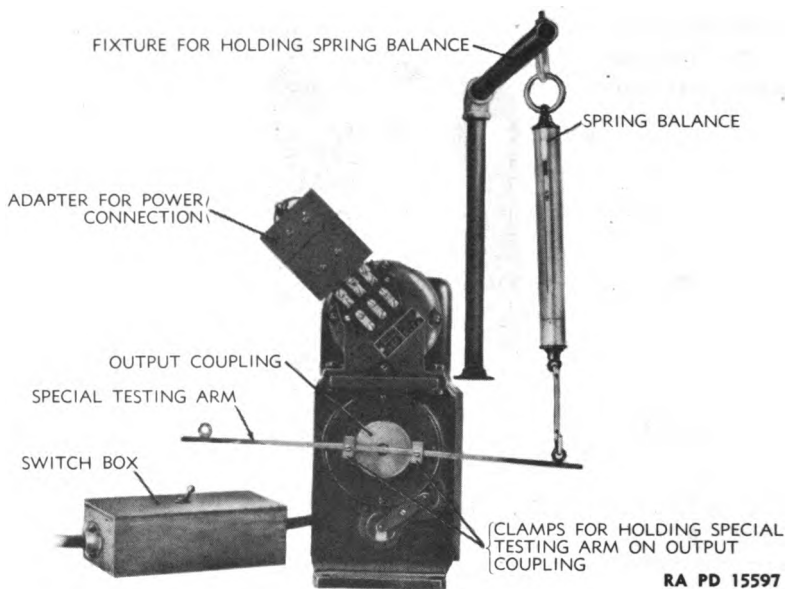

Figure 77 — Shop Test of Torque Amplifier
(1) A 1-ounce-inch torque may be applied by suspending a 2-ounce weight A400158 from the input coupling, and the 50- to 220-ounce-inch output torque may be measured as shown in figure 77, using torque arm B315848. The torque is obtained by multiplying the length of the arm in inches by the scale reading in ounces.